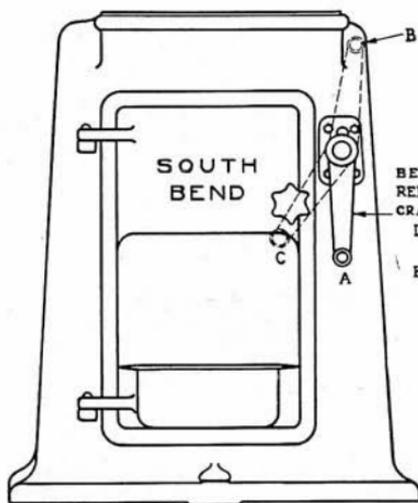
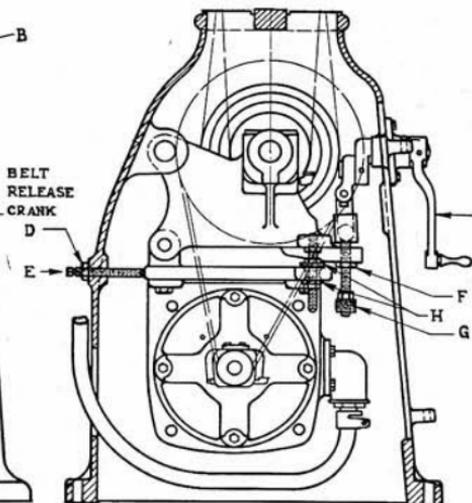

Fig. 1
Fig. 2
To shift the belt, stop the lathe and lift the hinged cover over the spindle cone. Place the belt release crank in position "B," Fig. 1. When shifting from a large step of a spindle cone to a smaller one, place the belt on the desired step at the top. The weight of the belt will bring it to the proper step of the lower cone pulley. To shift from a small step of the spindle cone to a larger one, give the belt a slight swing from the top so the lower end of belt will swing under the step of the lower cone pulley, then lift the belt to the larger step of the spindle cone. Belt may be shifted without opening door.
To adjust the cone belt tension, (1) stop lathe; (2) loosen lock nut "D" (Fig. 2) and withdraw adjusting screw "E" (Fig. 2), located on rear side of cabinet leg; (3) with belt in position, move belt release crank from position "A" letting weight of motor drive assembly rest on belt; (4) loosen lock nut "F" (Fig. 2) and turn adjusting knob "G" (Fig. 2) until belt release crank is in position "C" (Fig. 1), then tighten lock nut "F" (Fig. 2); (5) place belt release crank in position "A" (Fig. 1); (6) reset adjusting screw "E" against cradle and tighten lock nut "D."